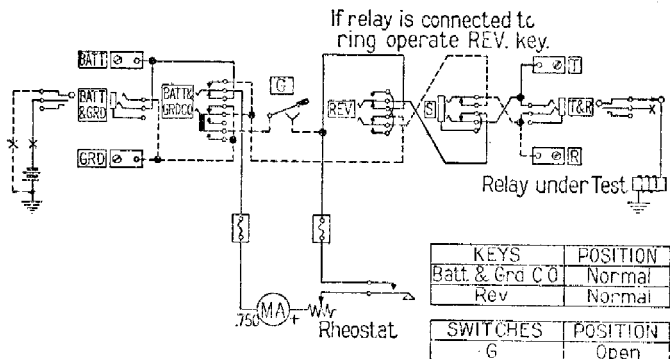

Fig. 2—Ground on Relay Winding
3.3 Figure 2 shows the test arrangement where one side of the winding of the relay is grounded. It should be noted that the REV key must be normal if the tip clip of the patch-